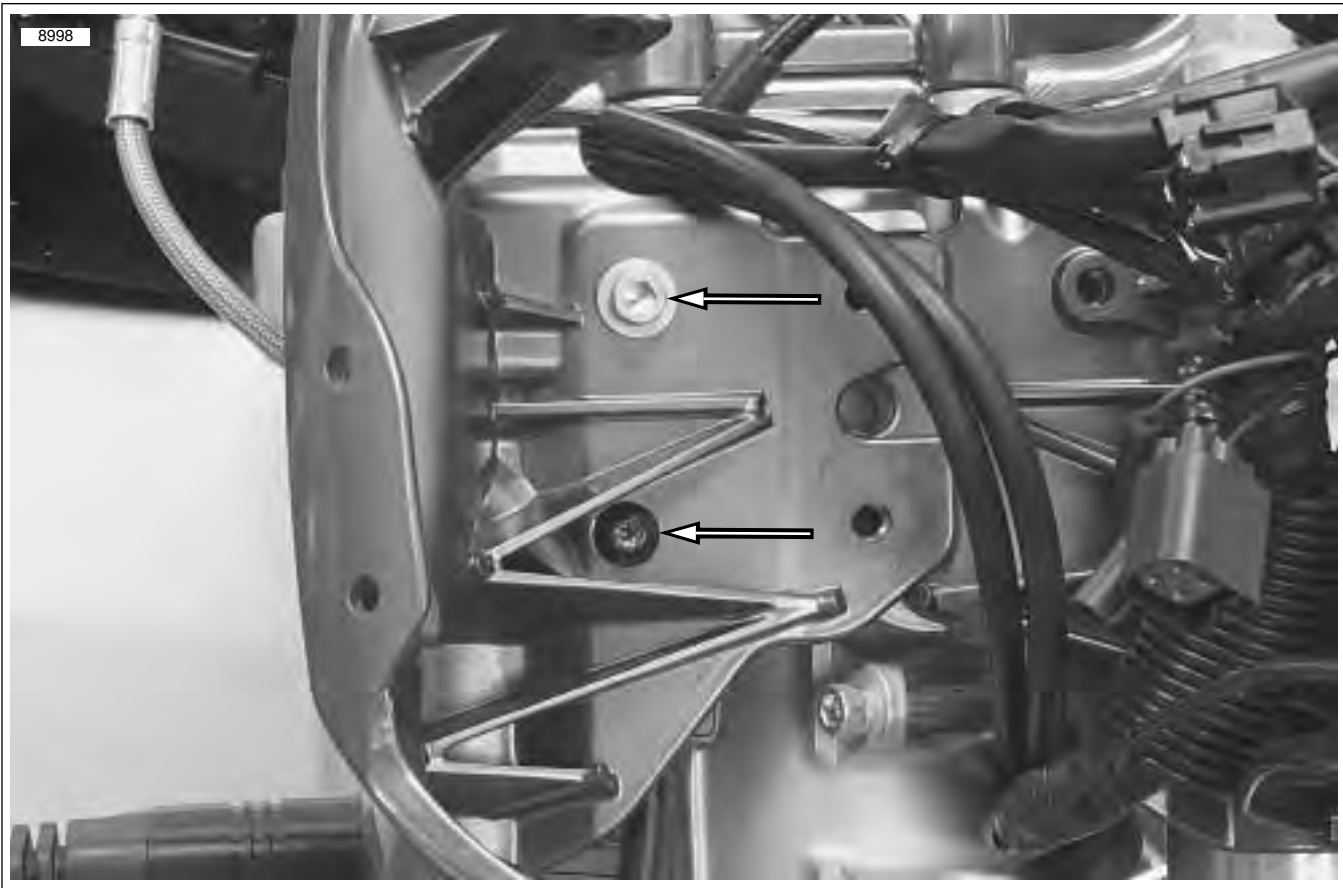

Figure 2-111. Right Front Module Fastener and Brake Line P-Clamp Fastener (Typical)
See Figure 2-111. Once the ignition switch has been removed there will be two remaining fasteners.
9. See Figure 2-111. Remove fastener attaching p-clamp to rear side of right front module.
10. See Figure 2-111. Loosen but do not remove final fastener securing the right front module to upper triple clamp.
12. See Figure 2-111. Remove the final fastener and the right front module.
1. See Figure 2-111. Install right front module leaving single fastener loose.